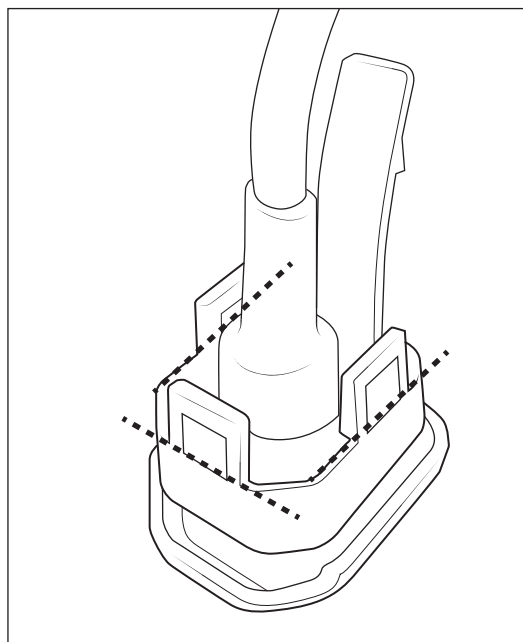

Figure 4
1. Using a pair of flush cutters, trim off the three plastic tabs from the back of the factory connector as shown in Fig. 4 below. Smooth down any remaining plastic so that the provided metal bracket can sit flush against the back of the connector.